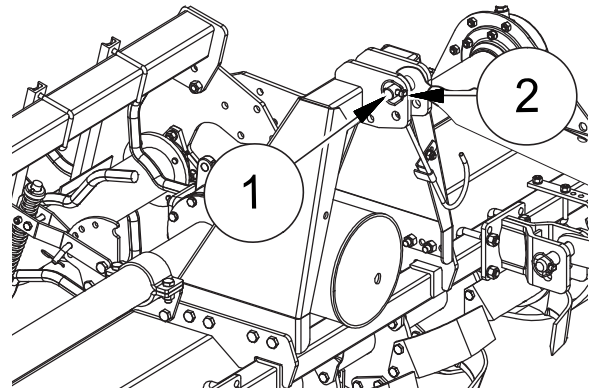

FIG. 21
- Move the tie-rod of the power-lift to the three-point hitch ("Fig. 21"). Set the tie rod so that the machine stays on